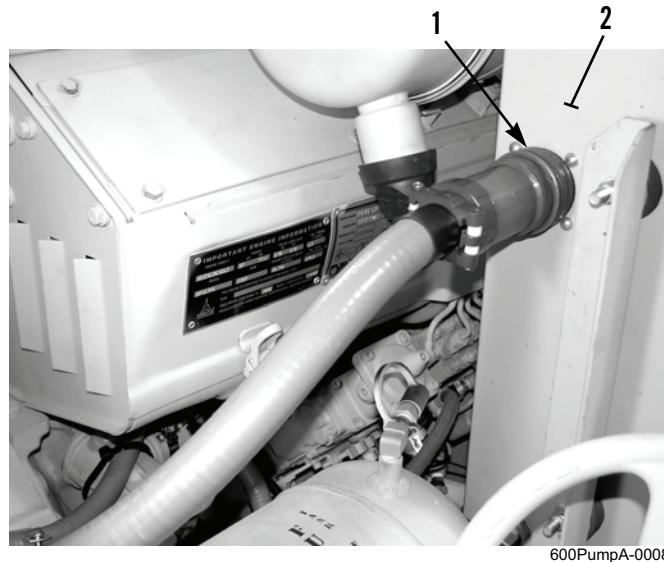

Figure 9. Control Panel Box and Wiring Harness Cable Connector.
10. Connect wiring harness cable connector (Figure 9, Item 1) to control panel box (Figure 9, Item 2).